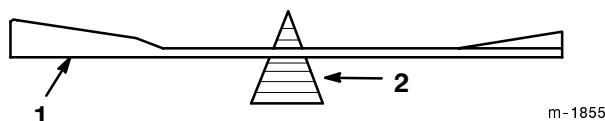

Figure 48
2. Check the balance of the blade by putting it on a blade balancer (Fig. 48). If the blade stays in a horizontal position, the blade is balanced and can be used. If the blade is not balanced, file some metal off the end of the sail area only (Fig. 48). Repeat this procedure until the blade is balanced.